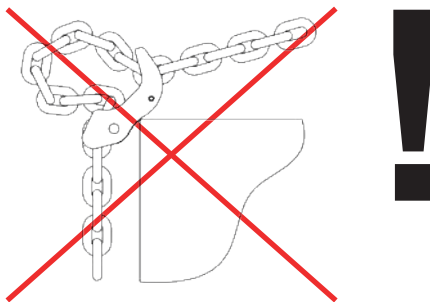

Fig. 7: Avoid edge load
- Avoid edge loads and protect the load against damage (Fig. 7)